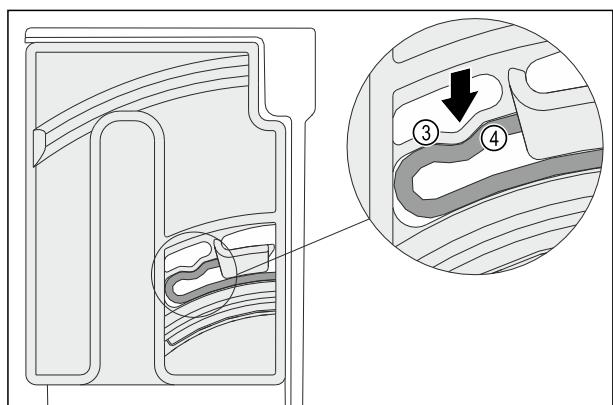

Fig. 150
- ▶ The elastic element Fig. 150 (3) of the turning unit audibly engages in the round shape of the rib Fig. 150 (4).